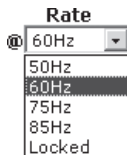

Figure 6-10 — Rate drop box
1. Click the Rate field. A drop down box appears (figure 6-10).